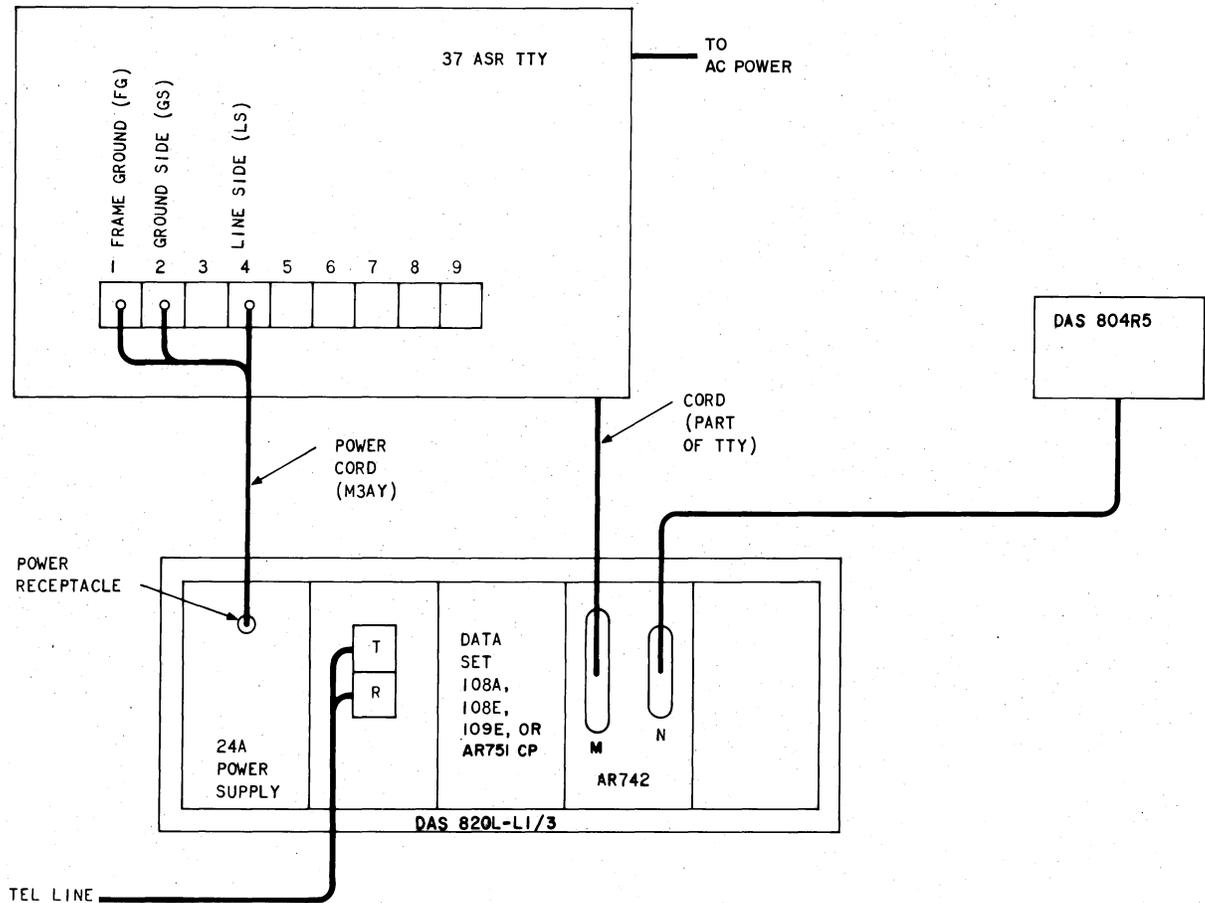
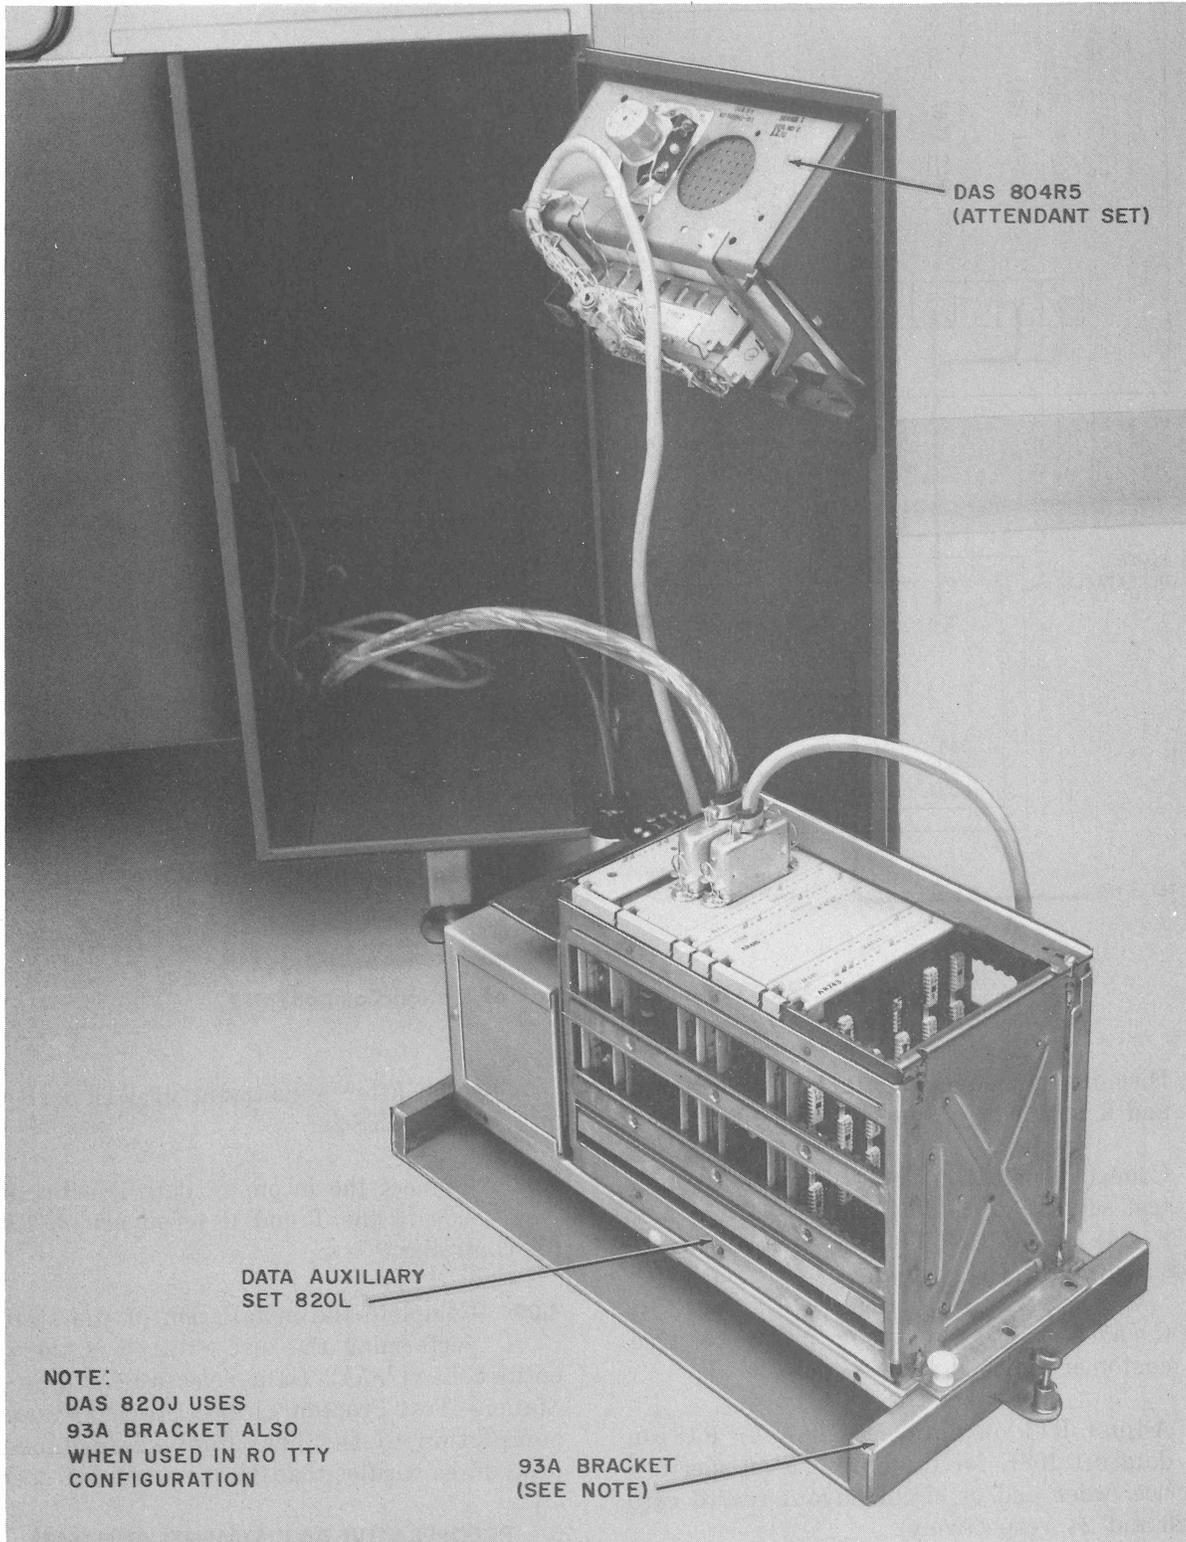

Fig. 8—37 ASR TTY—Interconnection of Station Components
Fig. 9—DAS 820L-Type Mounted in a TTY Using a 93A Bracket
2.11 Installation of a 37 ASR TTY shall be made in accordance with the applicable parts of the 574-division for the 37 TTY. The interconnection of station components is shown in Fig. 8. The DAS 820L-L1/3 type controller is mounted in the 37 ASR using 93A brackets as shown in Fig. 9. Check that all plugs and connectors are installed as indicated and the line is connected to the tip (T) and ring (R) terminals (see Fig. 8).